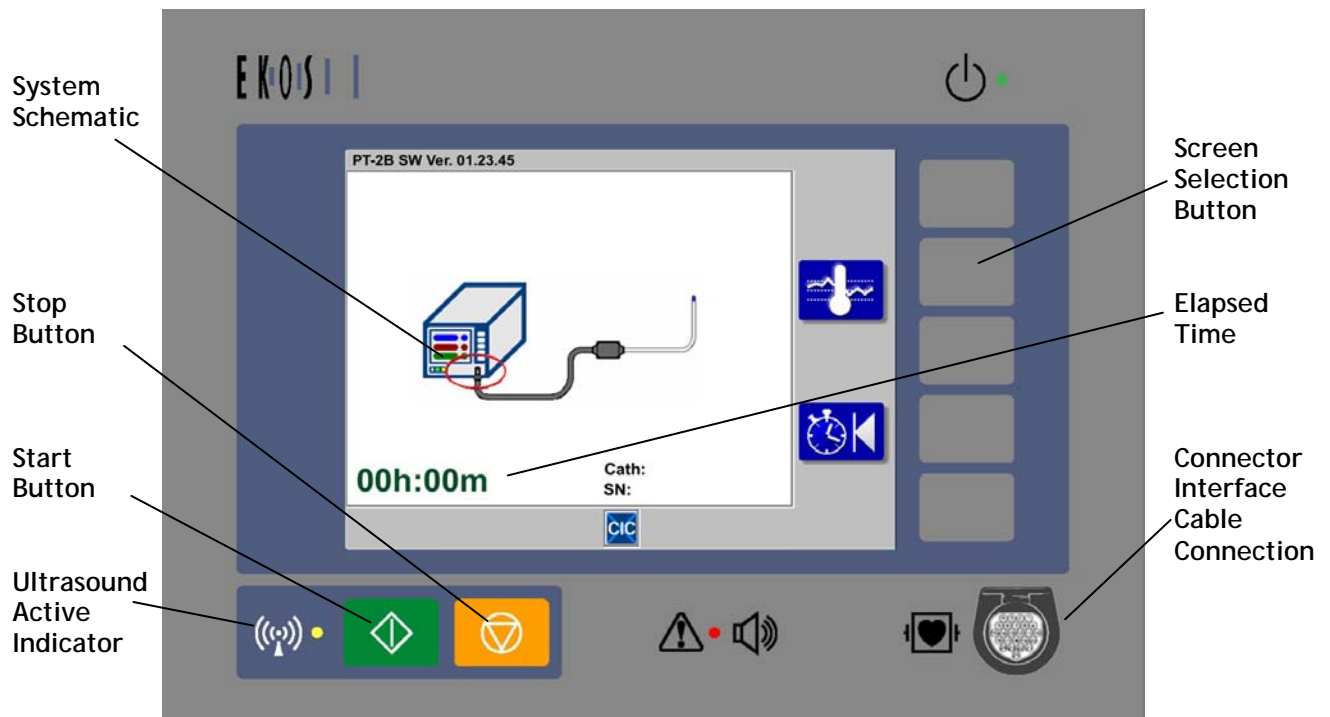

Figure 3. EkoSonic SV Control Unit front display in Ready Screen.
2. When the Control Unit successfully completes the self-test, the software will transition to the Ready Screen. See Figure 3 for an example of the Ready Screen.
- Figure 3 specifically shows that the Connector Interface Cable (CIC) has not been plugged into the Control Unit. The red circle around the front panel plug in the system schematic indicates where the CIC must be attached to the Control Unit. Ultrasound output will not be allowed unless the CIC is attached and the device is properly connected to the CIC. If the Control Unit detects any condition that prevents proper operation, it will identify the issue by displaying a combination of screen icons, circles and/or Xs on the system schematic. These icons and symbols are explained in the Troubleshooting section of this document.